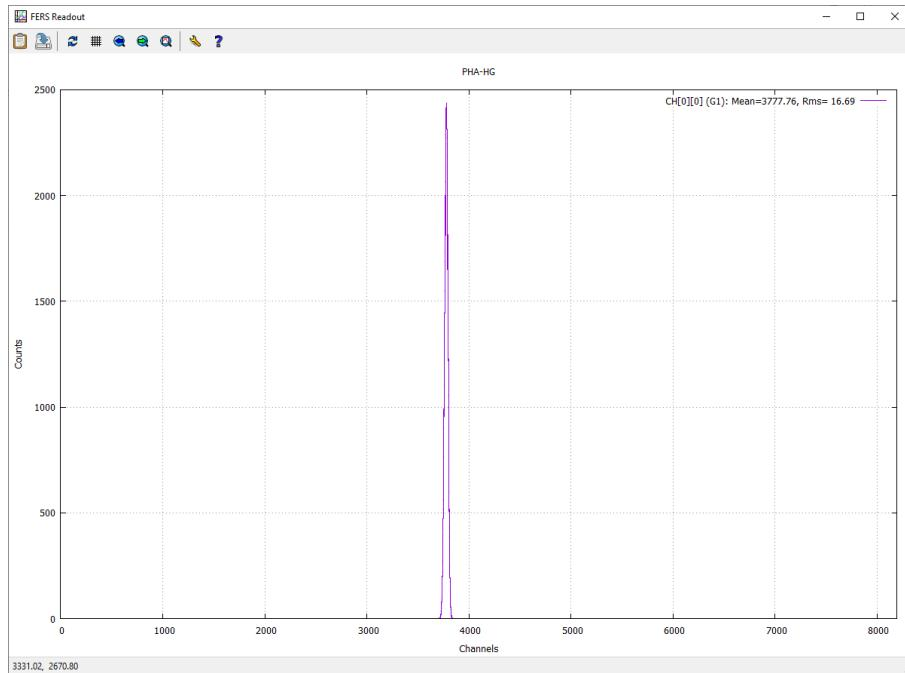

Fig. 10.25: Example of PHA spectrum obtained with the internal test pulser.
10. Press the Start button  . A plot similar to that in Fig. 10.25 will be visualized for the HG pulse height spectrum.